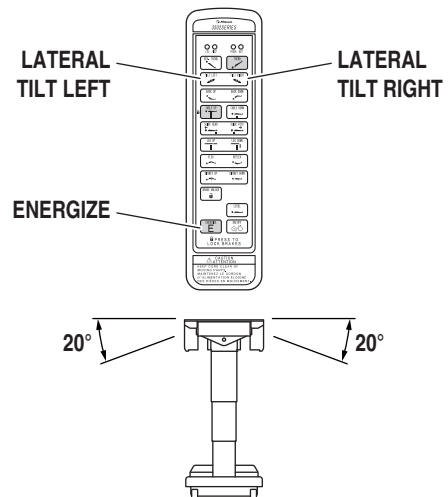

Figure 2-9. Lateral Tilt Positioning
c. Lateral Tilt To achieve lateral tilt right (as viewed from the head end of the table), press the ENERGIZE button and then the TILT RIGHT button (figure 2-9). Tilt of up to 20° may be obtained. To achieve lateral tilt left, press the ENERGIZE button and then the TILT LEFT button. Tilt of up to 20° may be obtained.